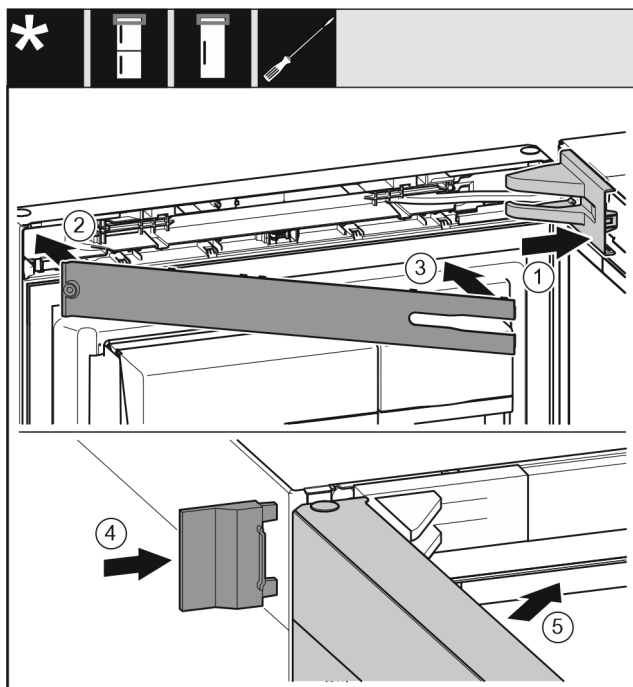

Fig. 25
- ▶ Put the swap bearing block cover Fig. 25 (1) on and engage, push apart carefully if required.
- ▶ Fit the trim Fig. 25 (2).
- ▶ Screen Fig. 25 (3)
- ▶ Push the outer cover Fig. 25 (4) on.
- ▶ Close the upper door Fig. 25 (5).